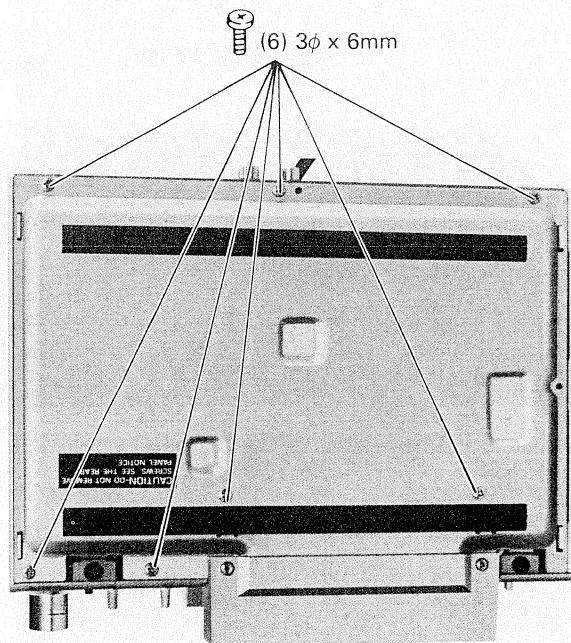

Figure 23
3. Remove seven screws (6) ($3\phi \times 6mm$) holding bottom plate as shown in Figure 23.